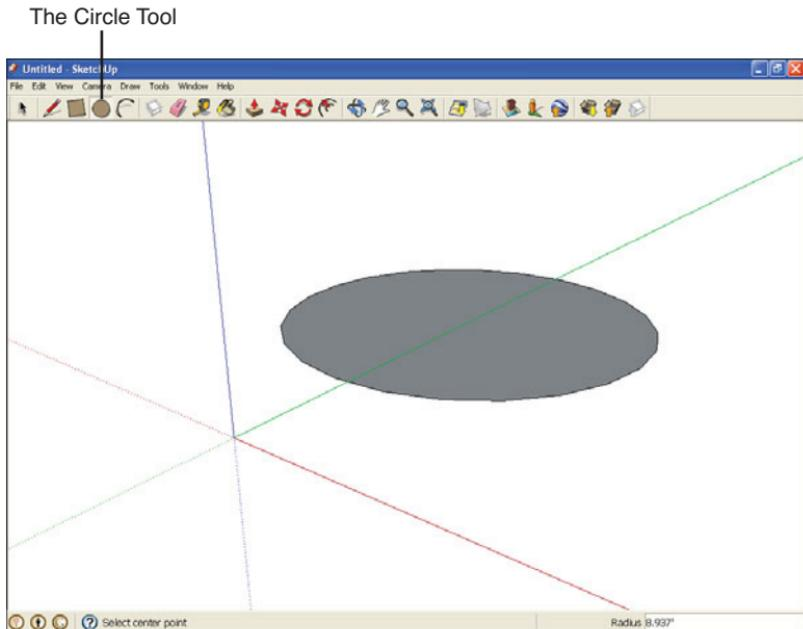

FIGURE 3.4 Drawing a circle.
2. Click the **Circle tool** in the toolbar (shown in Figure 3.4).
And that's it for drawing circles. When a circle has been drawn, it's a surface, and SketchUp colors it in, as you can see in Figure 3.4.